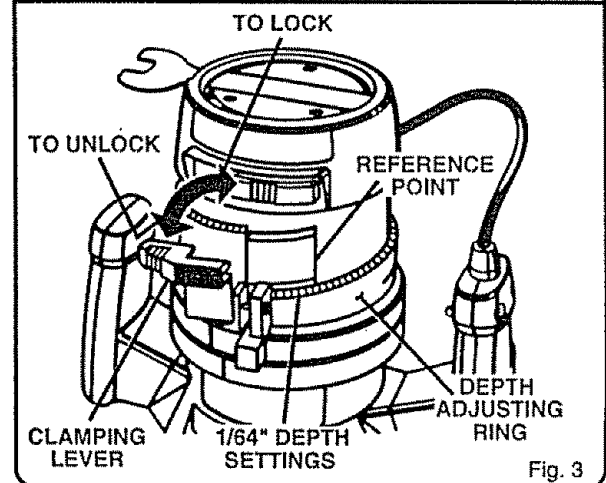

Fig. 3
See Figures 3 and 4.
2. Place your router on a flat surface, unlock clamping lever, and adjust until cutter is inside subbase. See *Figure 3*.